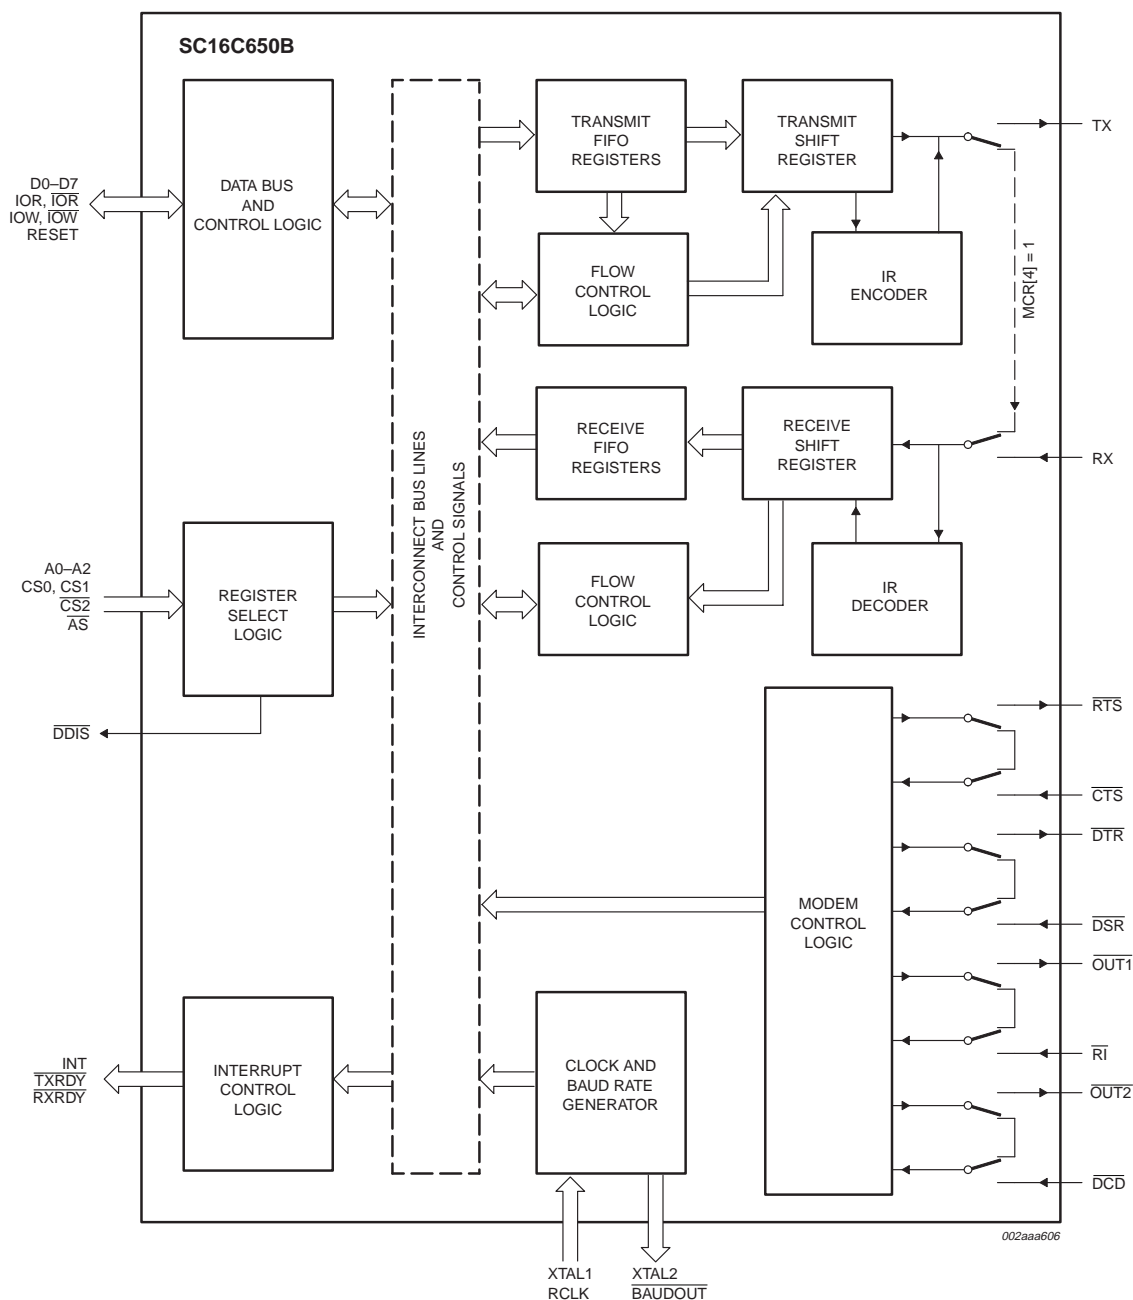

Fig 8. Internal loop-back mode diagram.
The internal loop-back capability allows on-board diagnostics. In the loop-back mode, the normal modem interface pins are disconnected and reconfigured for loop-back internally. MCR[0:3] register bits are used for controlling loop-back diagnostic testing. In the loop-back mode, OUT1 and OUT2 in the MCR register (bits 2:3) control the modem $\overline{\text{RI}}$ and $\overline{\text{DCD}}$ inputs, respectively. MCR signals $\overline{\text{DTR}}$ and $\overline{\text{RTS}}$ (bits 0:1) are used to control the modem $\overline{\text{DSR}}$ and $\overline{\text{CTS}}$ inputs, respectively. The transmitter output (TX) and the receiver input (RX) are disconnected from their associated interface pins, and instead are connected together internally (see Figure 8). The $\overline{\text{CTS}}$, $\overline{\text{DSR}}$, $\overline{\text{DCD}}$, and $\overline{\text{RI}}$ are disconnected from their normal modem control input pins, and instead are connected internally to $\overline{\text{DTR}}$, $\overline{\text{RTS}}$, OUT1 and OUT2. Loop-back test data is entered into the transmit holding register via the user data bus interface, D0-D7. The transmit UART serializes the data and passes the serial data to the receive UART via the internal loop-back connection. The receive UART converts the serial data back into parallel data that is then made available at the user data interface D0-D7. The user optionally compares the received data to the initial transmitted data for verifying error-free operation of the UART TX/RX circuits.